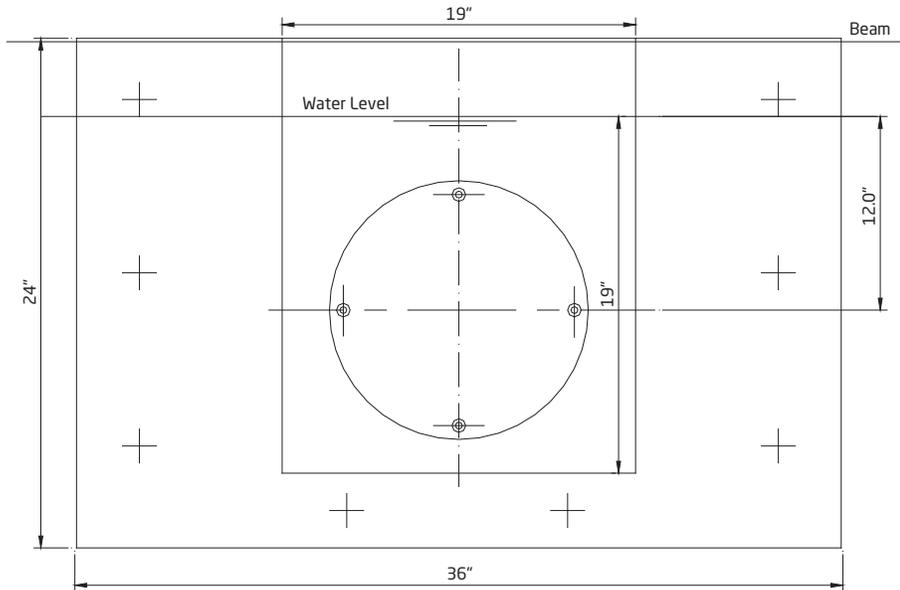

Figure 10
- One (1) piece of plywood 2' x 3' x 1/4"
- Eight (8) Lag screws 1/4" x 1-1/2" (minimum)
- Eight (8) Plastic lag shield anchors
4. Taking the 2' x 3' x 1/4" plywood, set its top edge even to the cap of the pool wall. In some cases a larger piece of plywood maybe needed to cover the hole completely. If plywood covers the hole completely, mark the water line on the plywood. From this line, layout and drill holes in plywood for the four (4) M8 x 30 screws (part #52) for gunite cover, and the eight (8) 1/4" lag screws. (*See Figure 10*)